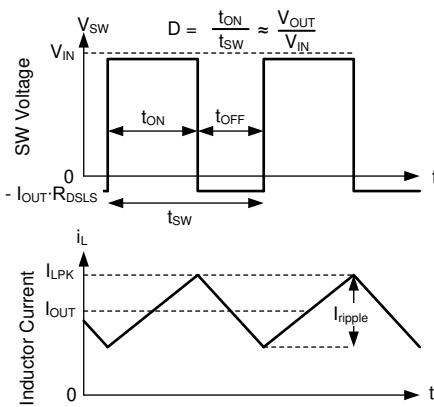

Figure 7-20. SW Voltage and Inductor Current Waveforms in Continuous Conduction Mode (CCM)
The following operating description of the LM614xxT-Q1 refers to *Functional Block Diagram* and the waveforms in Figure 7-20. Both supply a regulated output voltage by turning on the internal high-side (HS) and low-side (LS) NMOS switches with varying duty cycle (D). During the HS switch on-time, the SW terminal voltage, V_{SW} , swings up to approximately V_{IN} , and the inductor current, i_L , increases with a linear slope. The HS switch is turned off by the control logic. During the HS switch off-time, t_{OFF} , the LS switch is turned on. Inductor current discharges through the LS switch, forcing V_{SW} to swing below ground by the voltage drop across the LS switch. The regulator loop adjusts the duty cycle to maintain a constant output voltage. D is defined by the on-time of the HS switch over the switching period: $D = T_{ON} / (T_{ON} + T_{OFF})$.